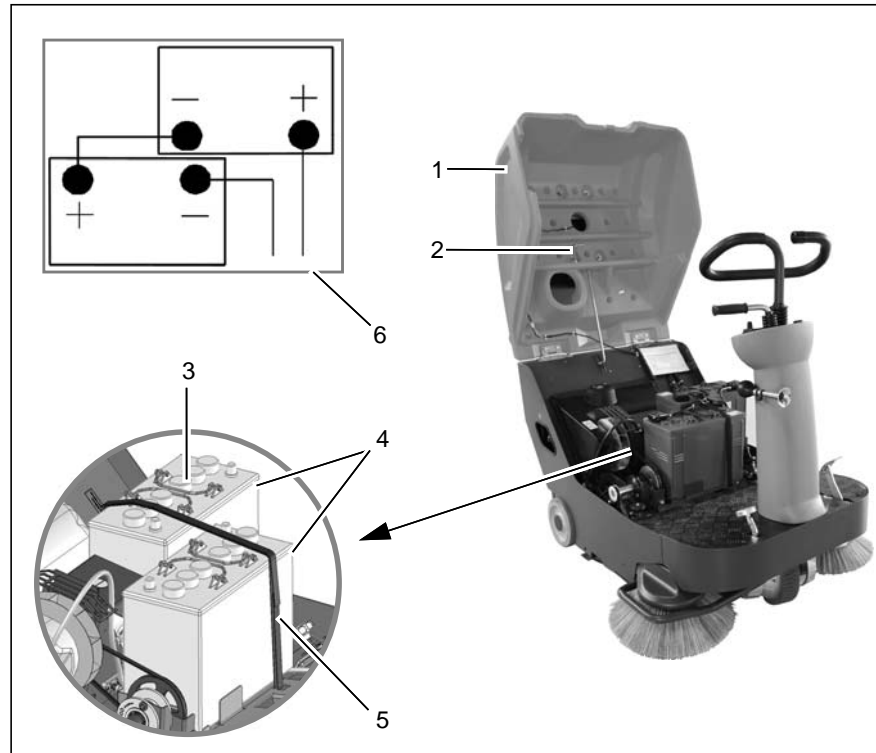

Fig. 17
2. Open the seat console (Fig. 17/1) and secure with the safety support (Fig. 17/2).
3. Disconnect the connection cables to the batteries (Fig. 17/4).
4. Loosen the retaining strap (Fig. 17/5).
5. Remove the batteries from the vehicle using the grab handle (Fig. 17/3).
3. Pick up the batteries (Fig. 17/4) using the grab handle (Fig. 17/3) and insert them in the vehicle.
4. Secure the batteries in place with the retaining strap (Fig. 17/5).
5. Connect the batteries in accordance with the connection diagram (Fig. 17/6).
6. Unlock the safety support (Fig. 17/2) and close the seat console (Fig. 17/1).